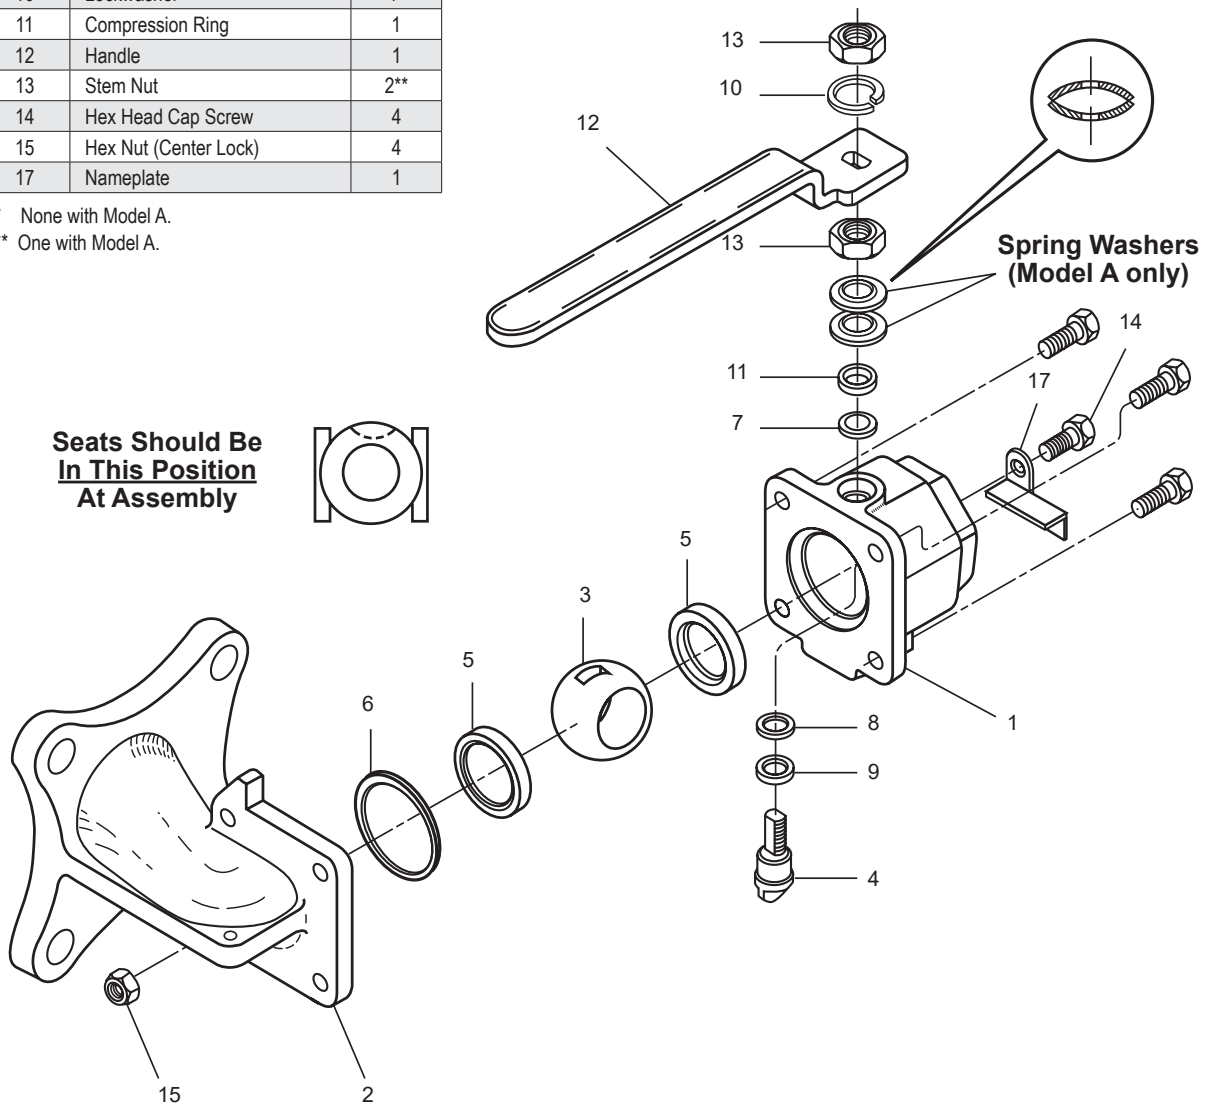

Figure 2.
1. Clamping the body (1) securely in a vise, drop in one seat (5) with the first surface on the bottom (see **Figure 2**).
2. From the inside, insert the secondary stem seal (8) first and then the red tinted lower stem seal (9). Insert the upper stem seal (7) from the outside of the valve.
3. Insert the stem (4) through the flanged end of the body (1) and, being careful not to scratch the seals, press it gently up into the stem hole. **DO NOT** attempt to push the stem all the way up into place. Push it up only until you encounter resistance from the lower seal.
4. Holding the stem in place from the bottom, drop on the compression ring (11).
- A. With Model A valves, put on the pair of spring washers (as shown in **Figure 2**), the handle (12) and screw on the stem nut (13): Tighten down the nut until the stem is fully seated, then tighten the nut an additional 1/8 to 1/4 turn.
- B. With Model B valves, screw on the bottom stem nut (13). Tighten down the nut until the stem is fully seated, then tighten the nut an additional 1/8 to 1/4 turn. Put the handle (12) and the lockwasher (10) on the stem. Screw on the top stem nut (13) finger tight, then tighten an additional 1/8 to 1/4 turn.
5. Insert the ball (3) rotating it onto the stem (4) in the closed position. If necessary, turn the stem blade to align with the ball slot.
6. Insert the body seal (6) and gently place it into the groove in the body.
7. Insert the second seat (5) in the body cap (2) so that the sealing surface of the seat is towards the ball (see **Figure 2**).
8. **NOTE:** The handle stop is part of the body cap (2). When assembling the valve, be sure the handle stop that projects from the body cap is in the lower right hand corner as the body (1) and body cap (2) by inserting the four body bolts (14). Bolt-heads should be on the body. Attach the nameplate (17).
9. Screw on the four hex nuts (15) until they are snug. Be careful to see that the body and cap are properly aligned. The extended edge of the handle should just touch the handle stop on the cap and the ball should be in the closed position. Using 2 FT•LBS (2.7 N•m) increments, tighten the bolts alternately in a diagonal pattern, as you would the lug nuts on an auto wheel, to 32 – 35 FT•LBS (43 – 48 N•m) **DO NOT TIGHTEN ONE NUT COMPLETELY, THEN PROCEED TO THE NEXT.**
10. Install the handle (11) so that it points away from the threaded port of the valve. Compare the handle orientation against that shown in (**Figures 2 and 3**). If orientation does not correspond to these illustrations, reposition the handle as required.